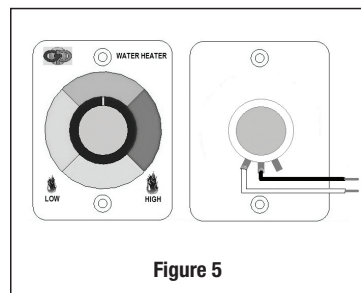

Figure 5
3. To install the remote Gas Modulation Control/GMC (Figure 5), connect the GAS MOD Box wire from the Water Heater to the White wire from the GMC and Black wire from the GMC to any accessible Ground wire/Ground connection of the vehicle. Be careful not to break wire connections on back of dial.
The Girard Products model GSWH-1M is a new 'induced-draft', tankless water heater designed specifically for Recreation Vehicles (RV). Its configuration and size are consistent with the tank based RV water heaters currently in use and is designed for OEM's and after-market use by the RV industry. A main feature of the GSWH-1M is a Gas Modulation Control (GMC - see Figure 5), which is installed inside the vehicle. Using the GMC, the heating capacity of the water heater can be manually adjusted from a minimum of 18,000 BTUs to a maximum of 36,000 BTUs and the incoming water temperature will rise 20° - 70° (F) based on the actual Hot water flow and the Gas Modulation Control (GMC) setting.
- 3.** Locate and set Gas Modulator Dial (GMC) to the appropriate setting (see fig.5 on page 8).